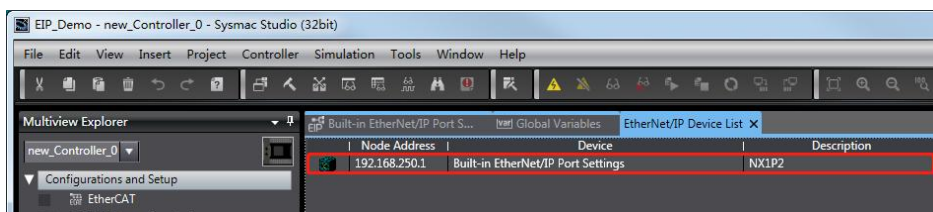

Figure 5-2-8
- As shown in Figure 5-2-8, double-click.